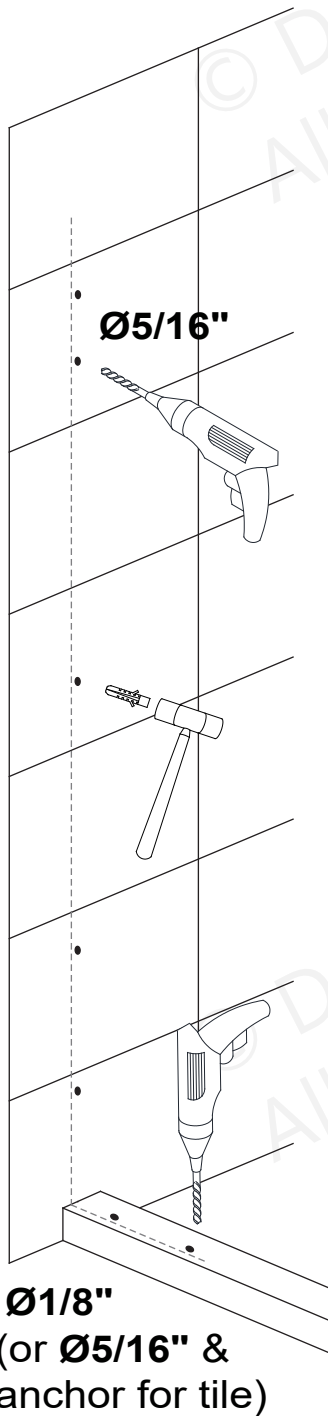

Fig 5
- Drill $\text{\O}5/16''$ holes and install anchors for installation into a tile threshold. **(Fig 5)**